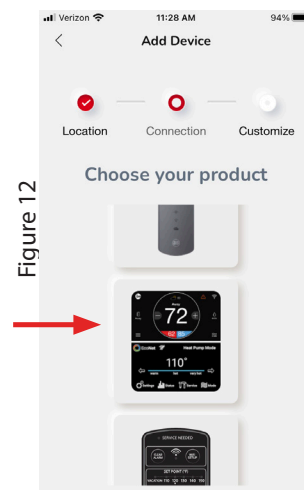

Figure 12
1. Click the command center icon shown in Figure 12 and 13.